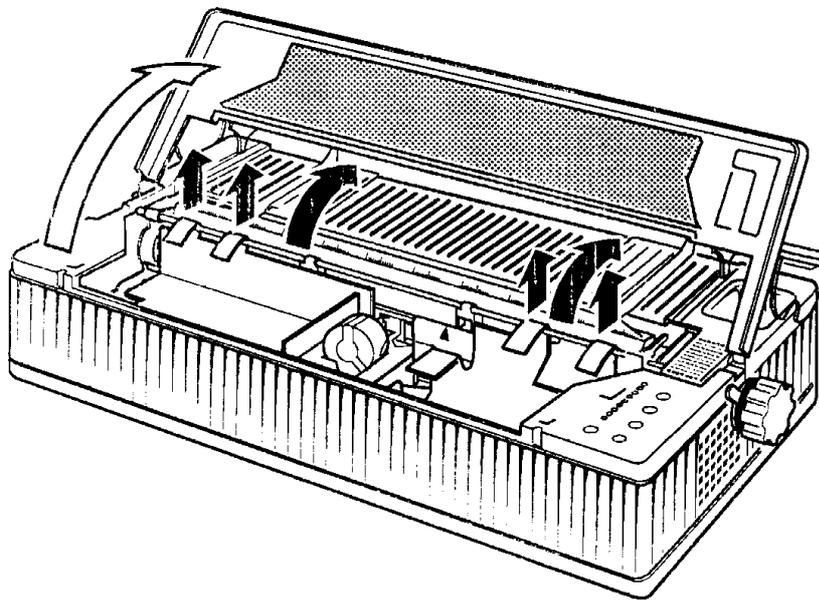

Fig. 2.1 Removing the Cardboard Strips
4. Open the front cover (see Figure 2-1), raise it, and tip it back towards the rear of the printer.
5. Remove the strips of cardboard blocking the printer head and the bail bar (see Figure 2-1).